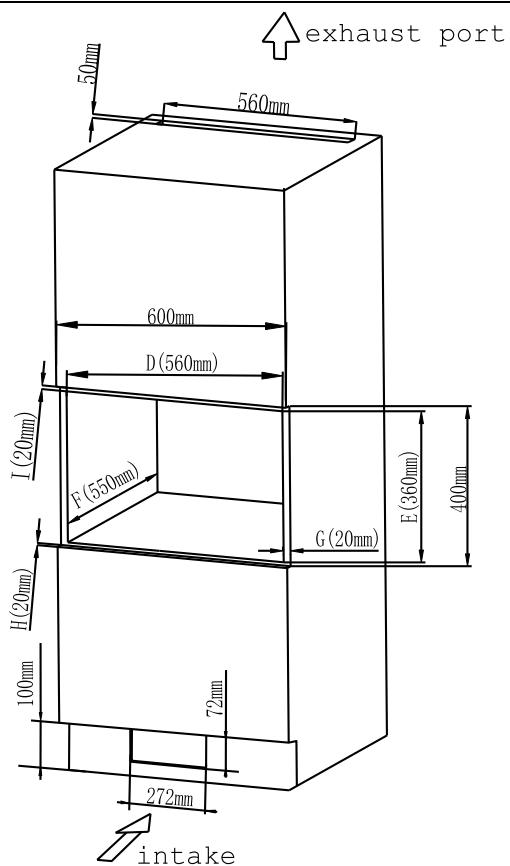

Fig. 5
Opening size: (D) 560 ± 2 x (E) 360 ± 2 x (F) 550 ± 2 (mm) as shown in Fig. 5 "D", "E", "F".